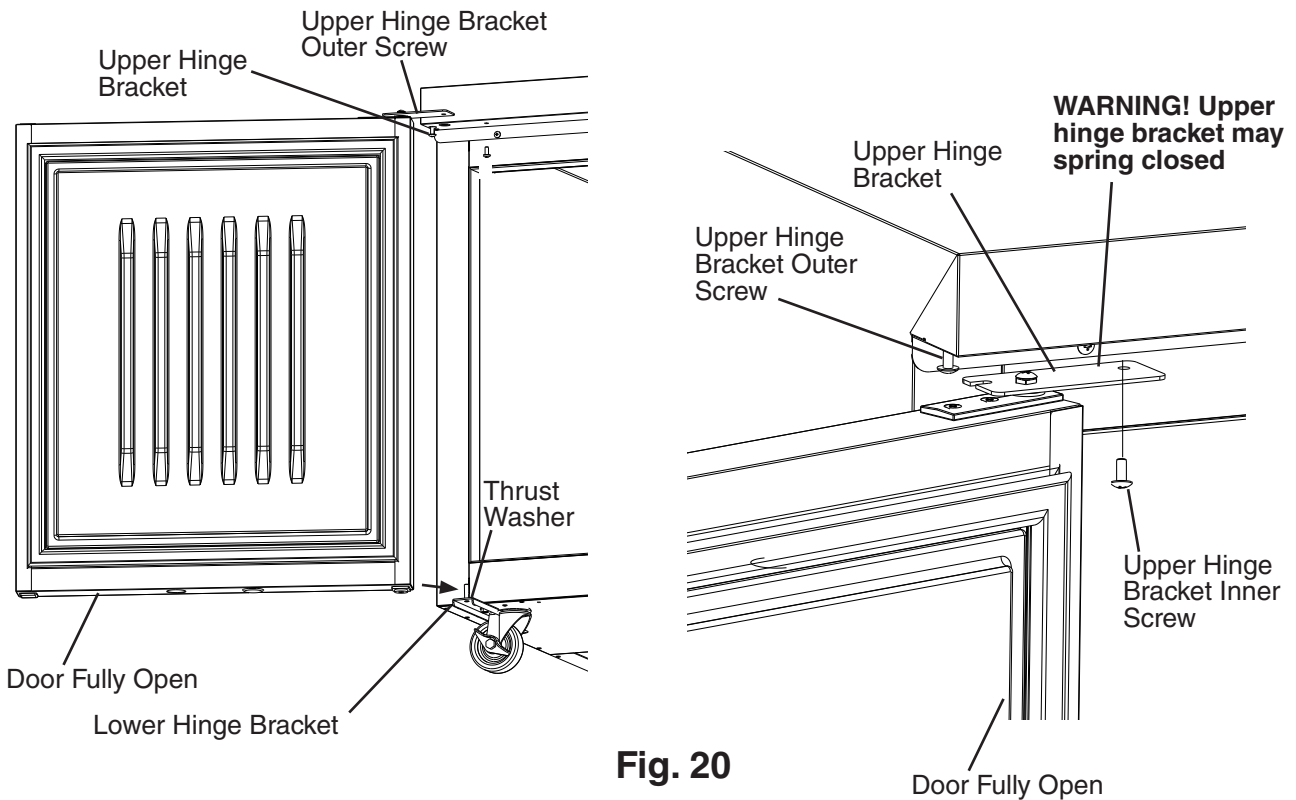

Fig. 20
- 14) Be sure the lower hinge bracket thrust washer is in place, then place the door on the lower hinge bracket in the fully open position. Slide the door upper hinge bracket outer slot onto the upper hinge bracket outer screw. See Fig. 20.